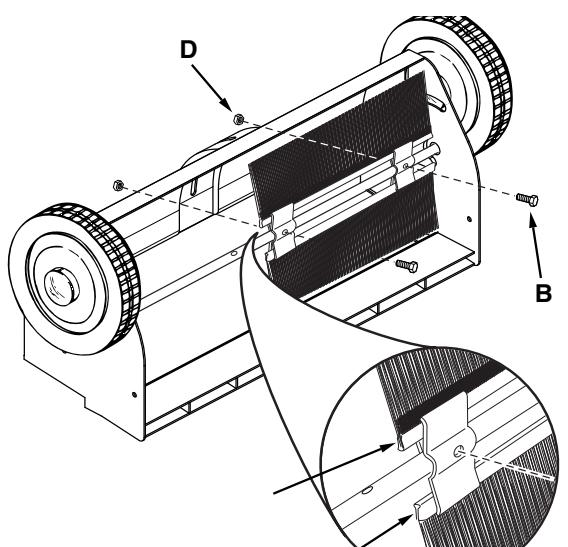

Figure 1
- (1) Adjustable Wrench
- (2) 7/16" Wrenches
STEP 1: (SEE FIGURE 1)
- Install two 1/4" x 1" hex bolts (B) and 1/4" nylock nuts (D).